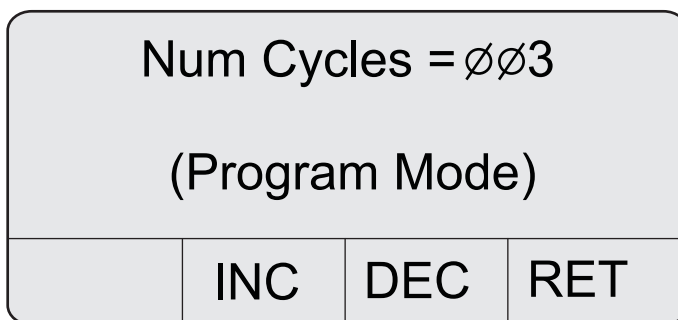

Figure 11 Num cycles screen
5. Press **4 (RET)**. The Num Cycles screen is displayed in the Program mode (refer to Figure 11).